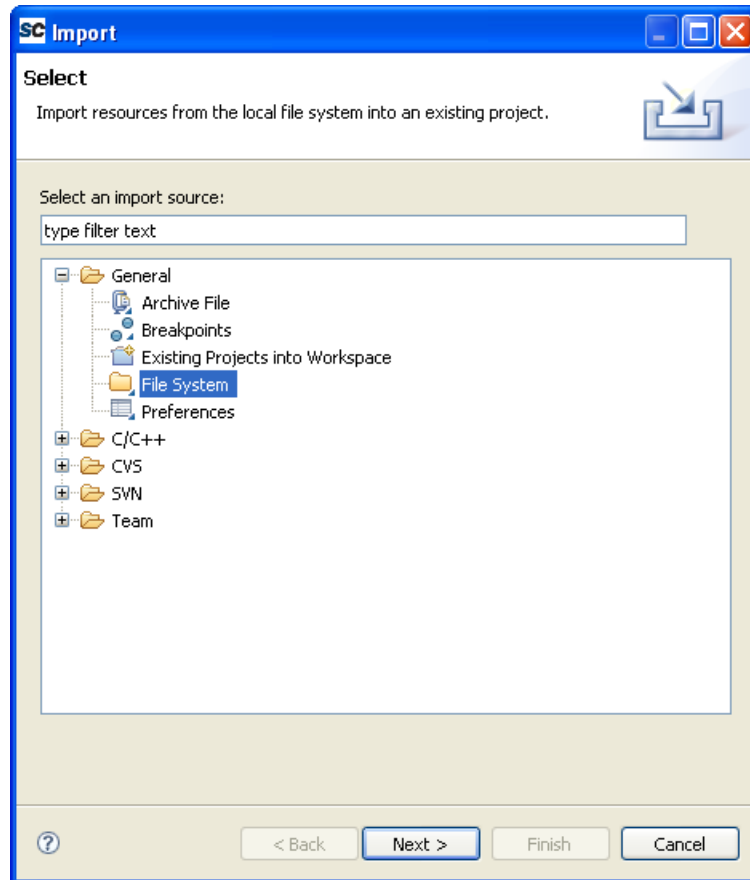

Figure 3-3 · Selecting File System as the Entity to Import
4. From the **File** menu, choose **Import**. The Import box appears (Figure 3-3).